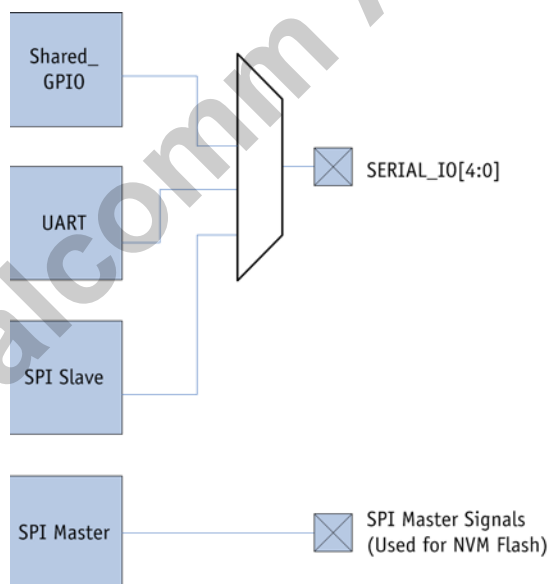

Figure 3-2 Serial I/O Options
The QCA7000 includes a SPI Master interface for interfacing to an external Non Volatile Memory (NVM -Flash) memory. The SPI Master Bus has dedicated pins and is always available to load the QCA7000 application Firmware (FW). The SPI Master interface signals are outlined in Table 3-1 and shown in Figure 3-2. The SPI Master port has dedicated un-multiplexed data, clock and chip-select pins, can be used to load FW. The NVM write and read cycle timing is fixed by the QCA7000 hardware.